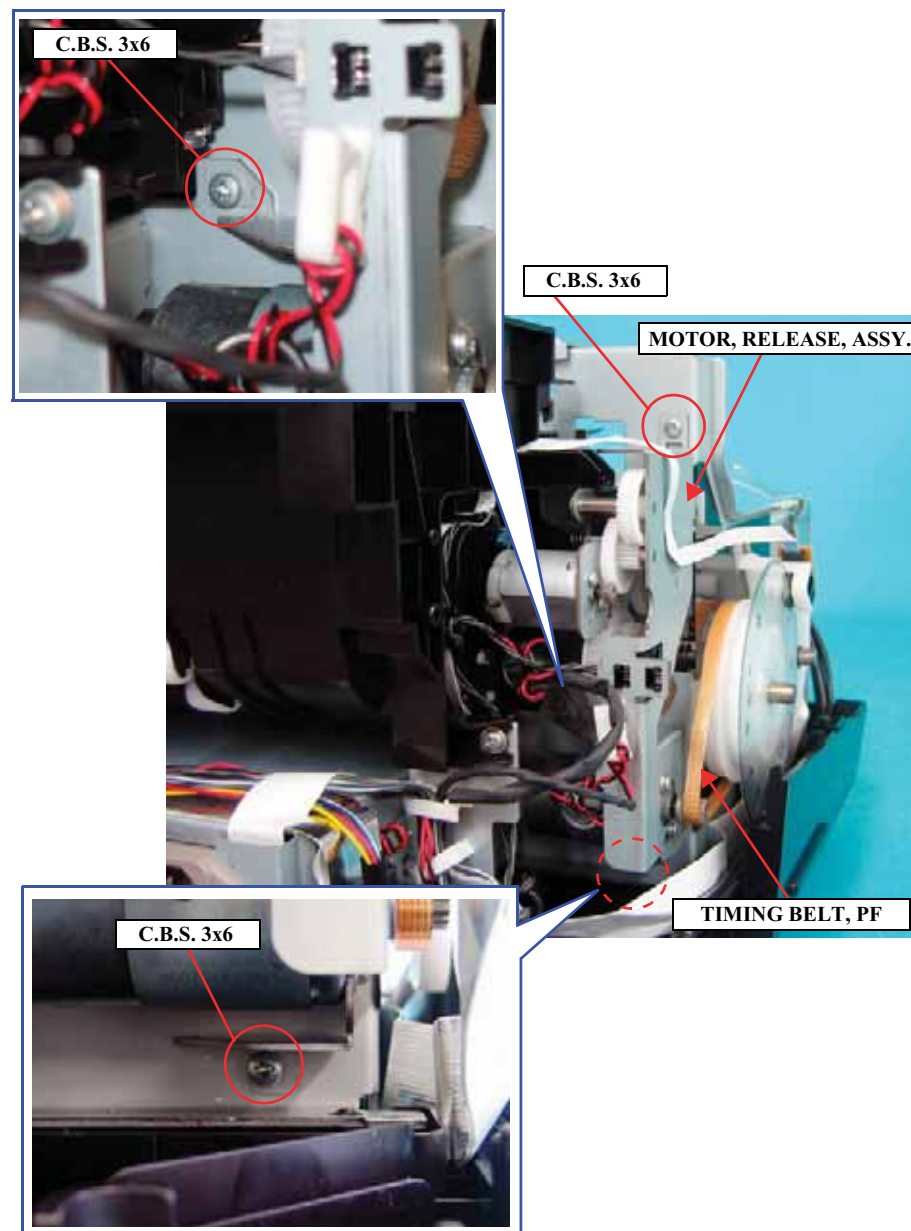

Figure 4-105. Removing the screws from the MOTOR, RELEASE ASSY.
7. Remove the three screws that secure the MOTOR, RELEASE, ASSY. *See Figure 4-105.*